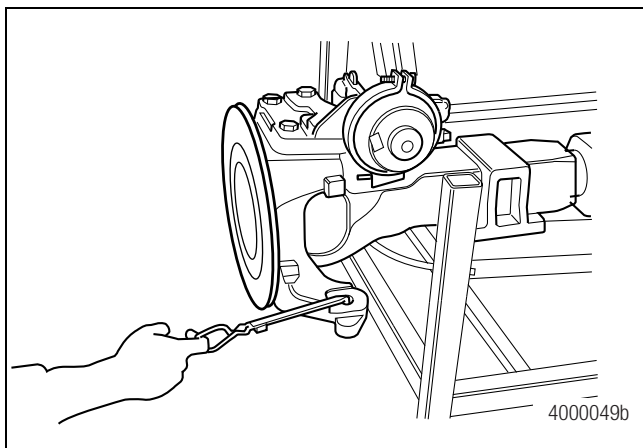

Figure 6.7
3. Read the pounds on the scale. Read the pull necessary to rotate the knuckle. The scale must read 10-30 lbs (4.5-13.5 kg). Figure 6.7.